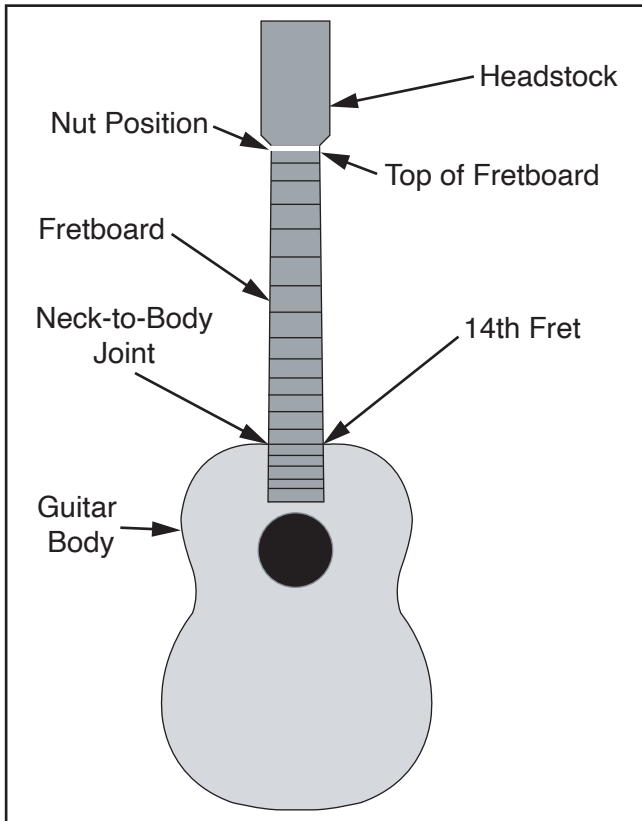

Figure 12. Fretboard correctly centered on neck.
3. Position fretboard on neck, making sure it is centered across width of neck, and that 14th fret is positioned over neck-to-body joint (see **Figure 12**).